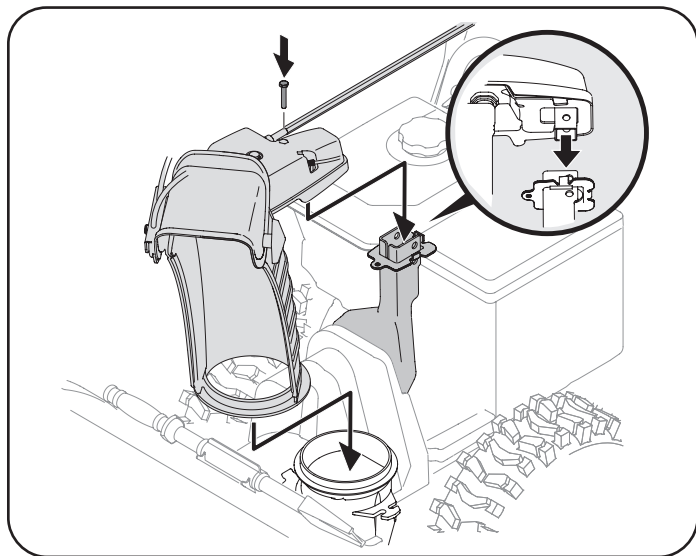

Figure 21
3. Place chute onto chute base and ensure chute control rod is positioned under handle panel. Install hex screw removed in Step 1, but do not secure with wing nut at this time. Figure 21.